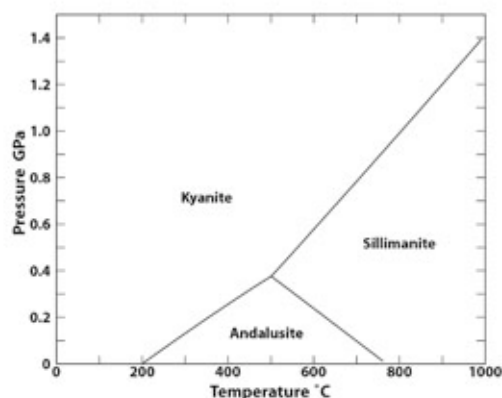

Figure 1. Phase diagram for the Al₂SiO₅ polymorphs.
■ **Discontinuous reactions** are those that occur at a particular temperature (for a particular pressure). For these, a curve (or line) can be drawn on a pressure-temperature (P-T) diagram. (See the reactions on Figure 1.) On either side of the curve, a different phase, or set of phases, is stable. In a discontinuous reaction, products and reactants can only co-exist stably precisely at the equilibrium reaction conditions (on the reaction line in P-T space). Discontinuous reactions are always *net-transfer reactions*.
■ **Polymorphic reactions** are a special type of solid-solid reaction that involve phases of identical composition. Classic examples are the reactions among the aluminum silicates: kyanite-sillimanite-andalusite. See the photomicrograph (Figure 2) and phase diagram (Figure 1). The conversion of graphite to diamond at high pressure, and calcium carbonate (calcite-aragonite) equilibria, are other examples.